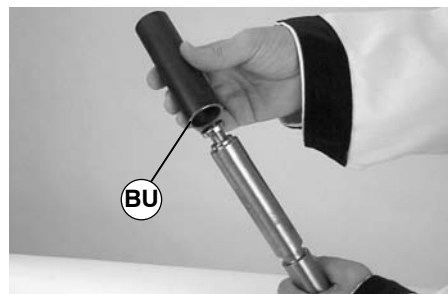

Figure 38
3. Slide sleeve (BU of Figure 38) of tool (part # 456085) over bearing.